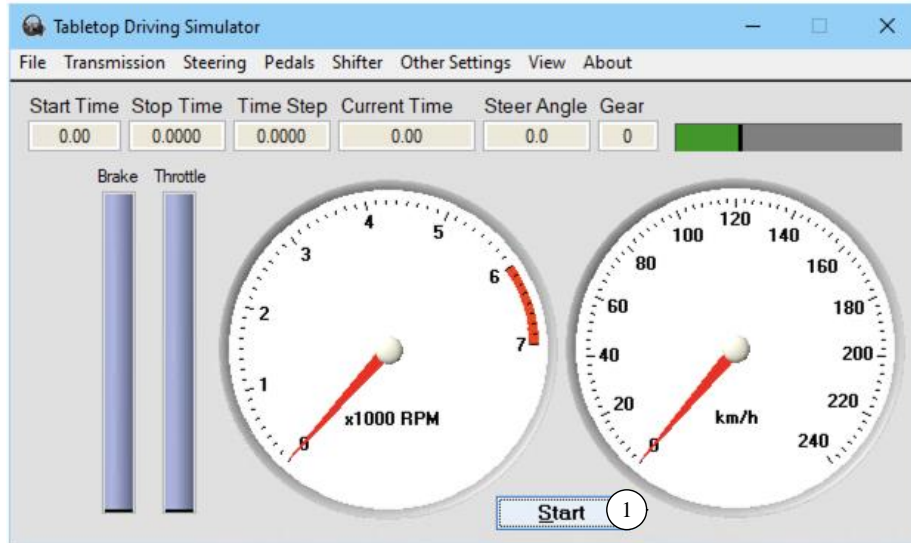
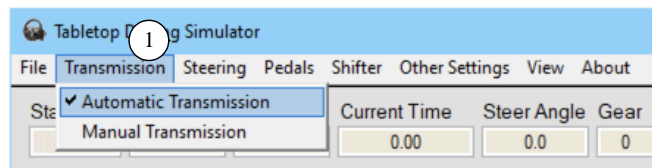
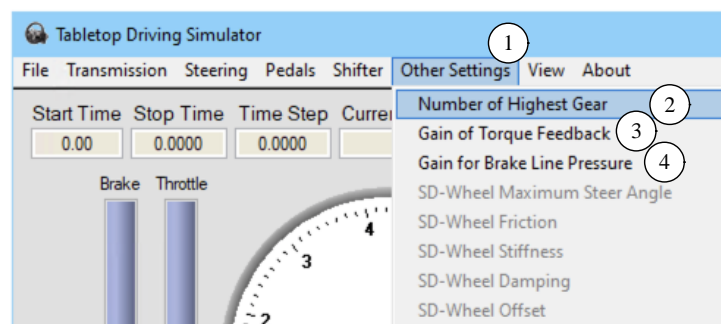

Figure 17. Tabletop Driving Simulator window.
Figure 18. Drop-down menu for Transmission (Automatic or Manual).
Figure 19. Drop-down menu with options to adjust driver controls.
The Tabletop Driving Simulator GUI (Figure 17) has a variety of vehicle and simulation information that is updated during the simulation including a speedometer, tachometer, bar gauges for the brake and throttle pedal positions, as well as fields reporting the simulation's start and stop times, math model time step, current simulation time, steering wheel angle, and the transmission gear position.
The Tabletop Driving Simulator interface has a variety of drop-down menus used to adjust settings related to the hardware and driver controls. Figure 18 and Figure 19 illustrate a few of these options.
The most common settings that are adjusted for a simulation with the Tabletop Driving Simulator are accessed from the drop-down menu **Other Settings** (Figure 19, (1)).
3. Launch the copy and make new settings in the Tabletop Driving Simulator GUI (Figure 17).
- ① Simulink **Start** button. Clicking this button starts the Simulink model and with it the Windows DS simulation. Once the Simulink model is running, this button changes to a **Stop** control in the same manner described earlier with Tabletop Driving Simulator (Figure 17, ①).
- ② Simulink mask and S-Function for the Logitech hardware. The S-Function allows the Logitech hardware to communicate with the Simulink model and the VS Math Model. Inputs to this block are the VS Math Model-calculated steering wheel torque and the transmission gear position selected from the Logitech steering wheel mounted paddles or H-pattern shifter. Outputs to the Simulink model represent the steering wheel angle, throttle position, brake pedal position (converted to a pressure), transmission drive mode (Reverse, Neutral, or 1st gear, etc.), and clutch pedal position (manual transmission vehicles only).
- ③ **RT Enable** block, required to slow down the Simulink model to allow it to run in Windows real-time.
- ④ Various gains on the driver controls, functionally equivalent to the **Other Settings** drop-down menu options used in Tabletop Driving Simulator (Figure 19, page 15, ① - ④). These gains are adjustable by the end-user.